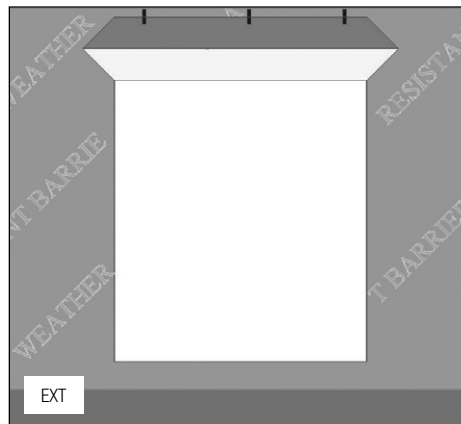

FIG. 6
- H) Temporarily tape this top flap up. (Fig. 6)